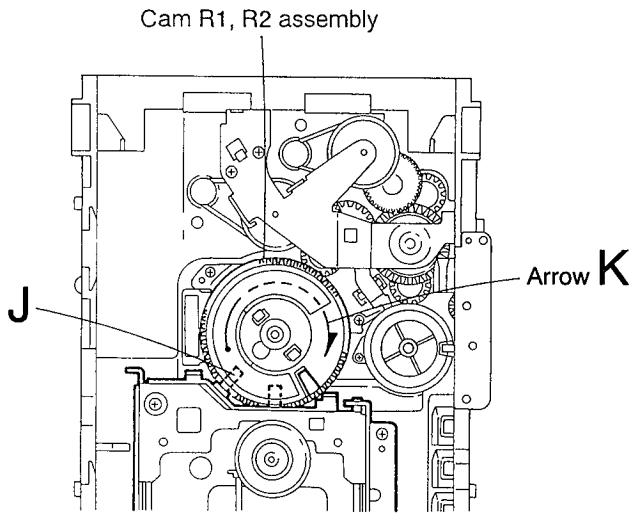

Fig.5-45
Removing the CD mechanism (See Figs. 5-45 and 5-46)
1. For dismantling only the CD mechanism without removing the CD mechanism assembly, align the shaft "J" of the CD mechanism assembly to the position shown in Fig. 5-45 while turning the cam R1 and R2 assembly in the arrow direction "K".